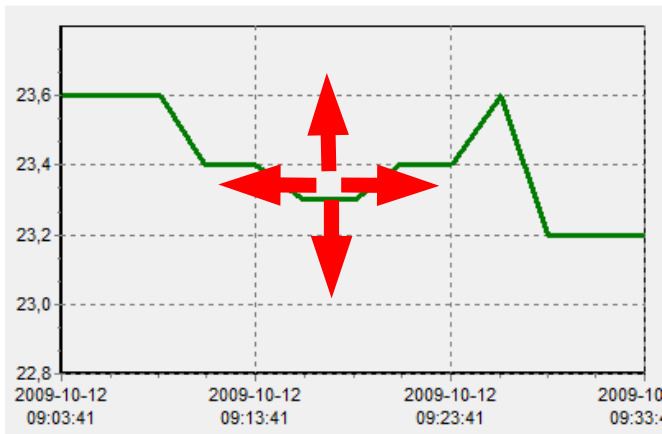

Figure 4.7. Moving the graph
- moving the graph** - the graph can be moved to the left/right (earlier/later time period, correspondingly) or to the down/up (lower/higher measurements range, correspondingly) . In order to do this, right-click on the graph and drag the pointer in desired direction (**Figure 4.7**).